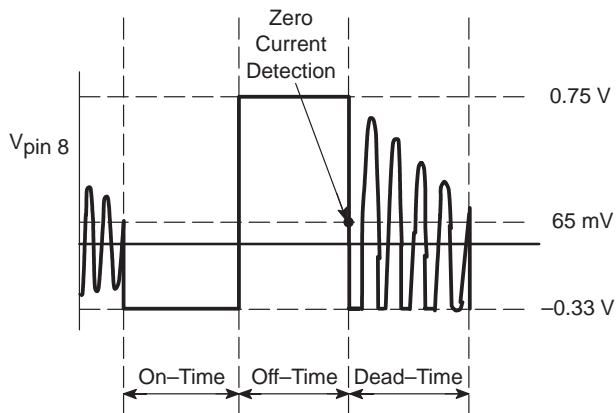
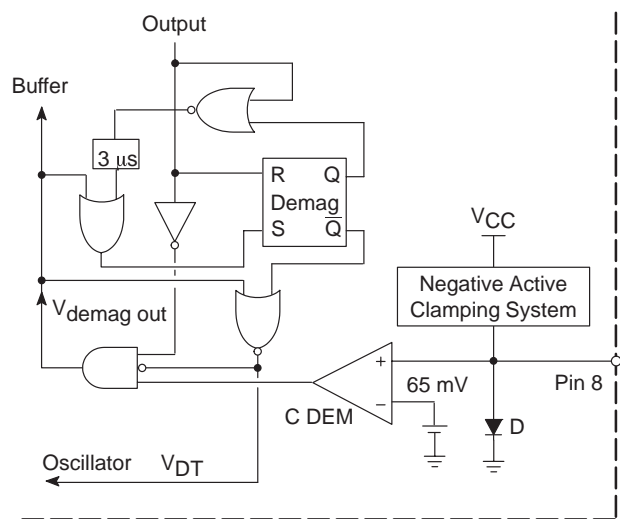

Figure 7. Demagnetization Detection
Figure 8. Demagnetization Block
- equal to zero for the dead-time with generally a ringing (refer to Figure 7).
A latch system is incorporated to keep the demagnetization block output level low as soon as a voltage lower than 65 mV is detected and as long as a new restart is produced (high level on the output (refer to Figure 8)). This process avoids that any ringing on the signal used on the pin 8, disrupts the demagnetization detection (refer to Figure 7). Finally, this method results in a very accurate demagnetization phase detection, and the signal  $V_{DT}$  drawn from this block is high only for the dead time. Therefore, an oscillator re-start and so, a new power switch conduction is only allowed during the dead-time.
The demagnetization detection can be inhibited by connecting pin 8 to the ground but in this case, a timer (about  $3 \mu s$ ) that is incorporated to set the latch when it can not be set by  $V_{demagout}$ , results in a minimum off-time (refer to Figure 8).